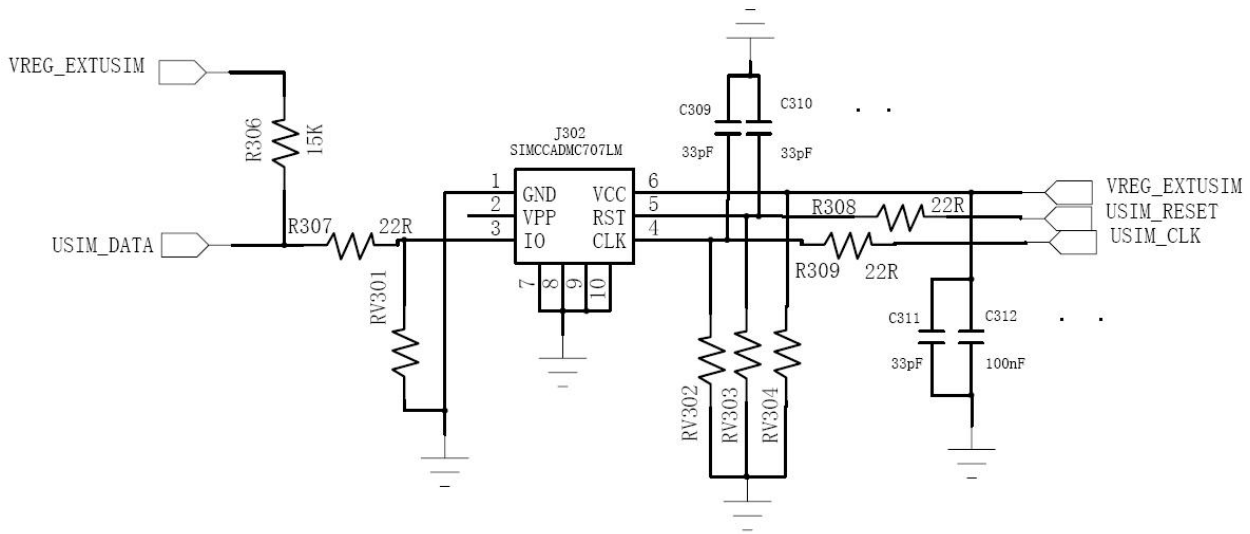

Figure 2-9 The reference circuit of USIM interface
The reference circuit of USIM interface is shown in figure 2-9.
- 2) It is recommended to use the smoothing capacitor or smoothing circuit for reducing the undesired signal between different frequency bands. Just like what is shown in figure 2-9.